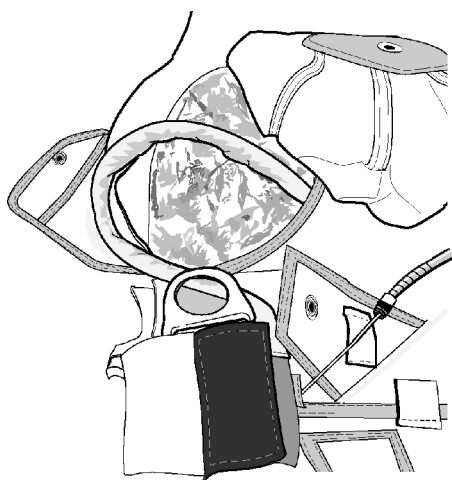

Figure 14. Routing of MOR Housing
a. Insert pull-up cords through each of the 1/2-in. and 3/4-in. closing loops. Insert a length of 750 lb. spectra/microline through 4 1/2-in. closing loop. Ensure MOR cable housing is routed over right top edge of module (Figure 14). (QA)